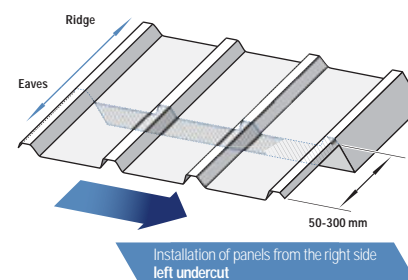

fig. 14
- Roof panels installed from the left side to the right one (empty „hump” on the left) - **left undercut**. (fig. 14)